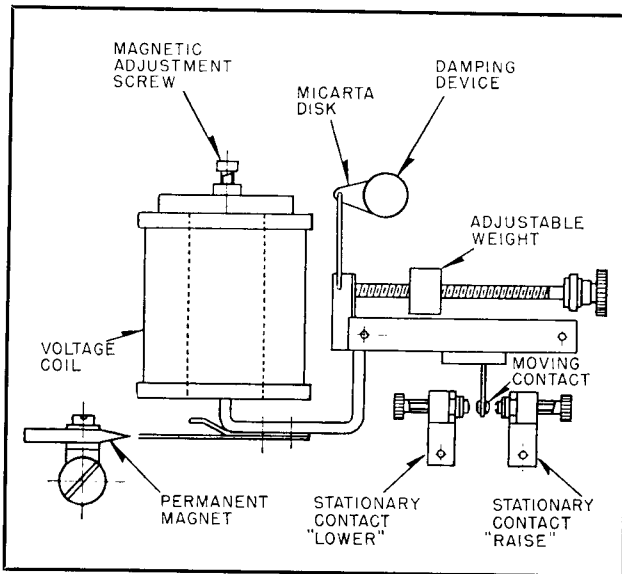

FIG. 3. Voltage Regulating Relay Assembly
Fig. 3 shows a voltage regulating relay with its various parts identified. Each part has an important function which should be clearly understood. As the steps in adjusting this relay are
**Checking for Mechanical Friction.** If friction is present, it will result in a sluggish or erratic relay. To make this check, the following steps should be taken (see Fig. 3):